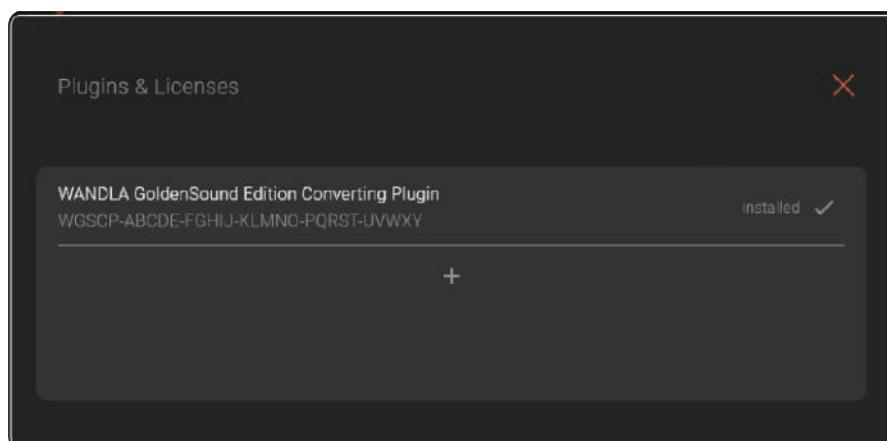

Figure 18
8. The plugin should be successfully installed, and you can enjoy the new features on your WANDLA now (Fig. 18).